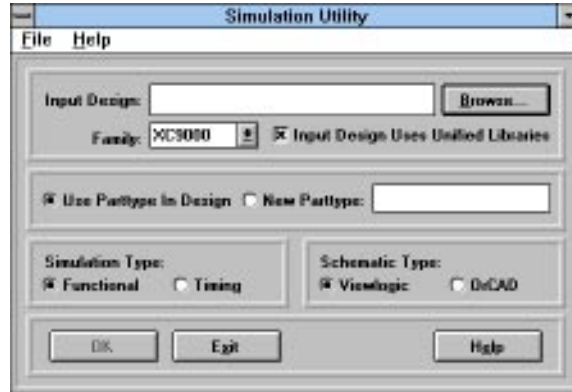

Figure D-1. Simulation Utility Control Panel
1. From the Xilinx program group, double-click on the Simulation Utility icon. The control panel shown in Figure D-1 will appear.